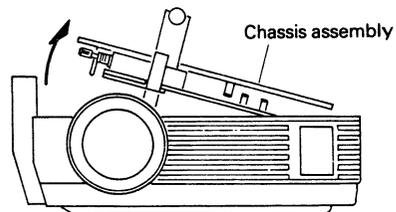

Fig. 10
4. Push the lever knobs down inside the panel, rotate the bottom of the circuit board on its axis and then lift the chassis assembly up. (Fig. 10)